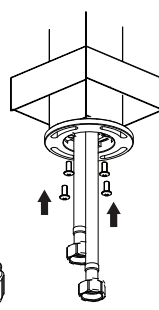

Figure 25
5. Attach the flange to the body, using the four screws provided as shown in Figure 25.